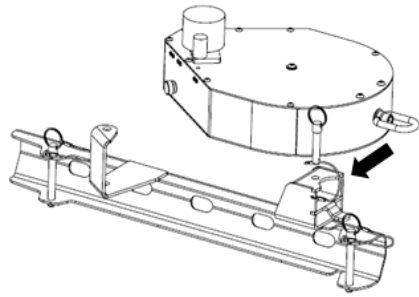

Fig. 7
2. Slide the Miller MightEvac into the front part of the bracket. Secure the Miller MightEvac attachment swivel with the push pin into the rear part of the bracket (Fig. 7).